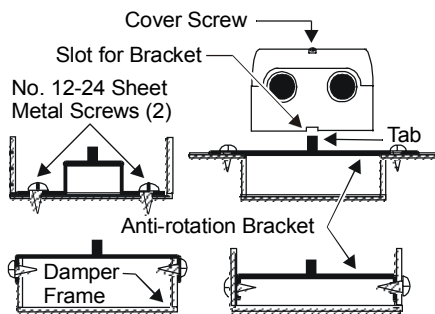

Figure 4: Anti-rotation Bracket Positions
2. Bend or cut the anti-rotation bracket to fit the damper frame or duct as shown in Figure 4.
5. Slide the actuator onto the damper shaft, positioning the anti-rotation bracket tab into the slot at the bottom of the actuator. (See Figure 4.)